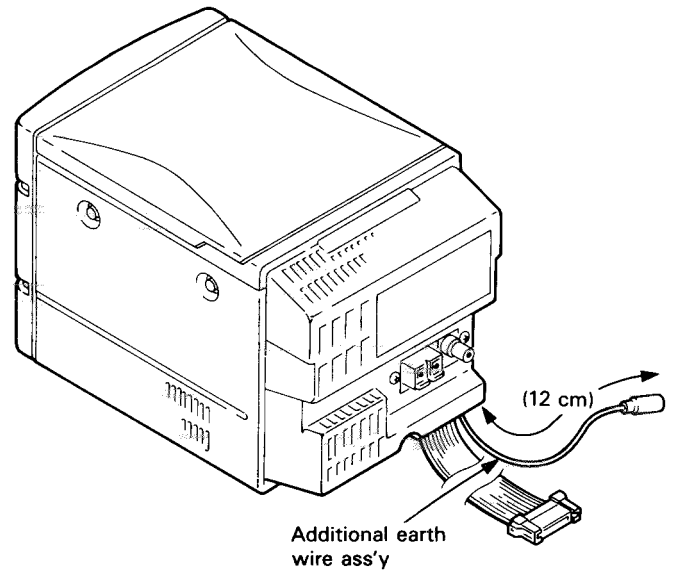

Fig. 7
- ⑧ The earth wire ass'y connected to the CD tuner section is drawn out together with the system wire as indicated in Fig. 7 below.